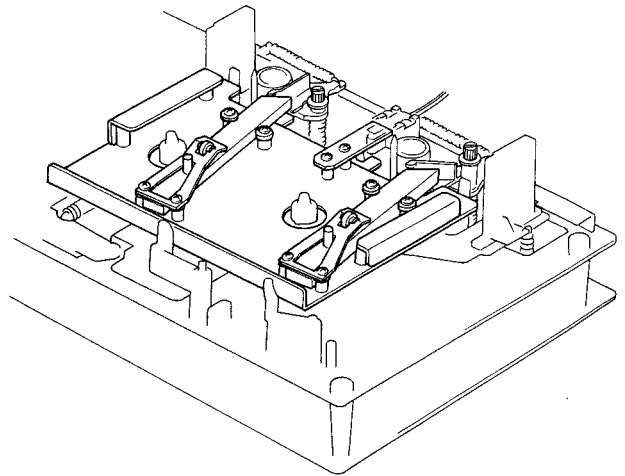

Fig. 4.8
Remove Head Mount Base Ass'y referring to item 2.23. Refer to Figs. 4.8 and 4.9.
(1) Supply Tape Guide Height Adjustment
(2) Take-up Tape Guide Height Adjustment